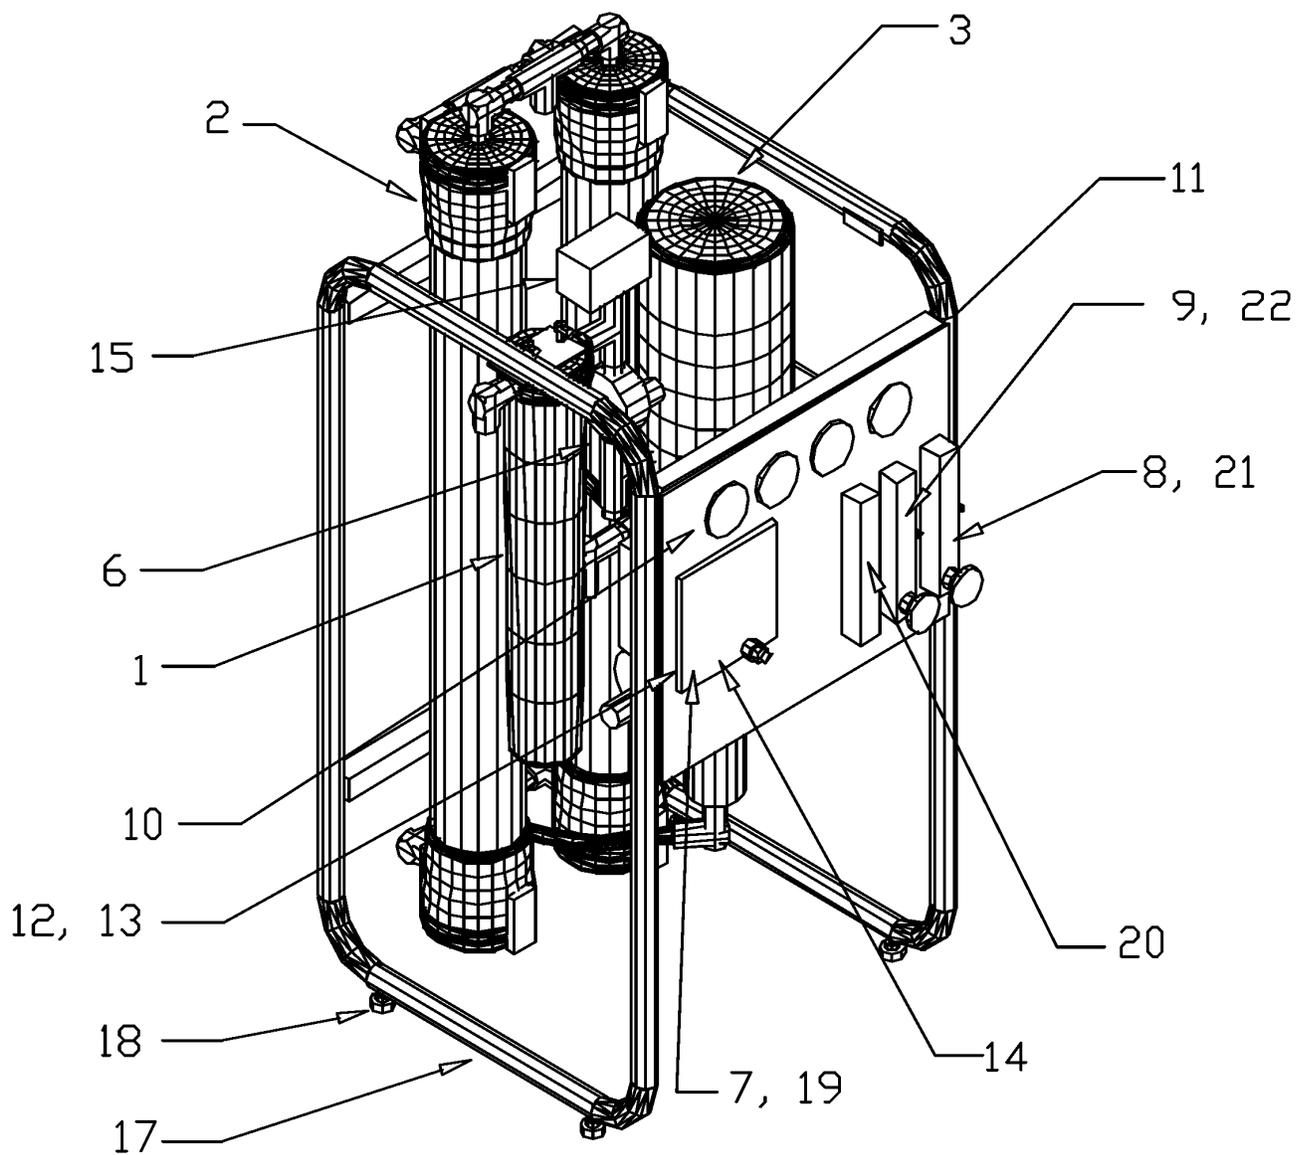

Figure 1. System Configuration, TV-4000 Shown
2.0 SYSTEM ITEM IDENTIFICATION (Refer to Figure 1)
2.2 SYSTEM OPTION DESCRIPTIONS (Refer To Figure 1)